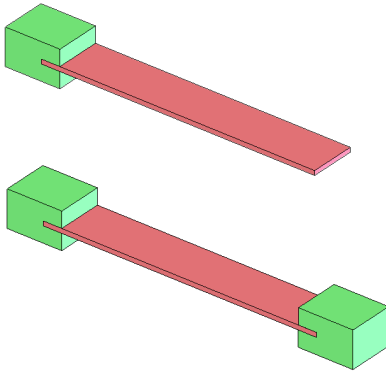

Figure 1: Cantilever beam (top) has lower stiffness than the same beam supported on both ends (bottom).
**3. Part Support:** A beam with a simple support is less stiff and will deflect more than the same beam with built-in supports as shown in Figure 1.